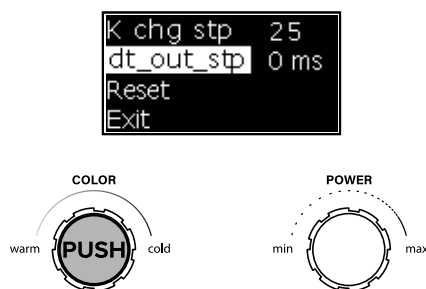

Fig. 46
1. Pressing on the left encoder displays the menu to select the values of parameter **dt_out_stp** (Fig.46).